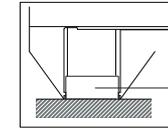

Fig.2
(2) The calibration method for the '0' position of the tooth height ruler: take one piece of grade 3 gauge block which size is equal to the lower limit of the measured modulus. Then wipe the surface of the granite surface plate(grade 1), place the gauge block on On the plate, press the tooth thickness caliper with your left hand, so that the two measuring jaws of the tooth thickness ruler are in contact with the plate, as shown in Fig.2, Slowly move the vernier of the tooth height ruler with the right hand, the measuring surface of the tooth height ruler and the measuring block with the right hand After the contact is stabilized, the '0' line and tail line on the vernier should coincide with the corresponding line on the ruler body, respectively.